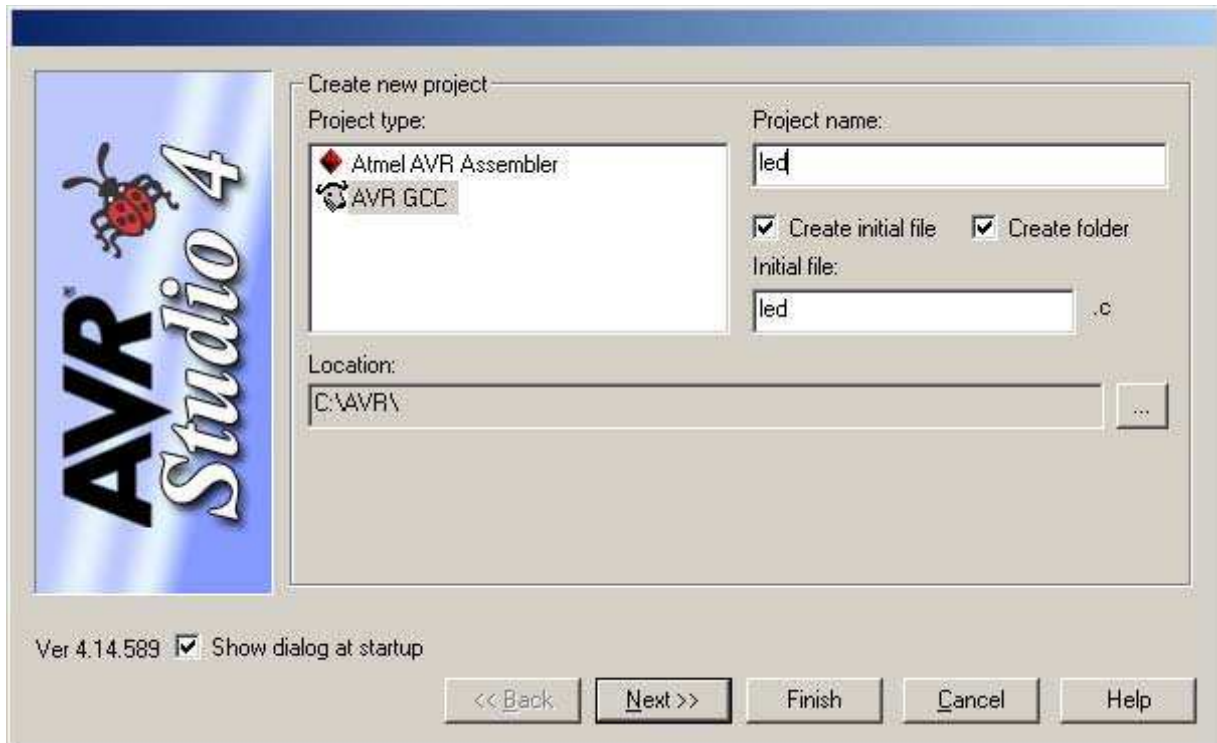

Figure 1: Entering project type, name and location.
- Select menu **Project | New Project**. In the dialog box that appears (see Figure 1), select AVR GCC as project type, and specify the project name and project location. If options 'Create initial file' and 'Create folder' are selected, an empty C file and containing folder will be created for you. In this case, we create a project called 'led'. Click button **Next** when you are ready.